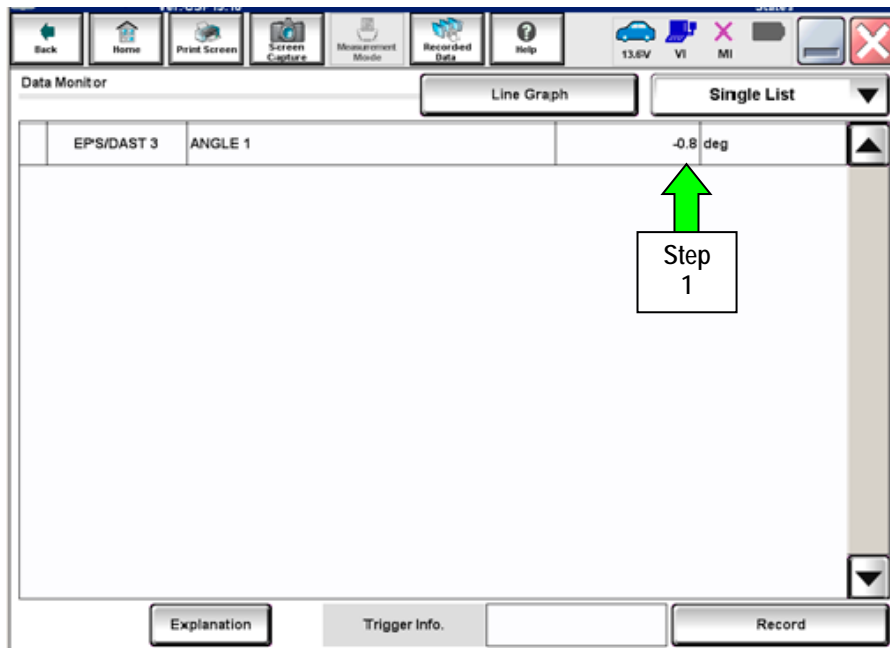

Figure 28
1. With C-III plus in **Diagnosis (All Systems)**, select **EPS/DAST 3 >> DATA MONITOR >> ANGLE 1**, and then check the value of **ANGLE 1** (see Figure 28).